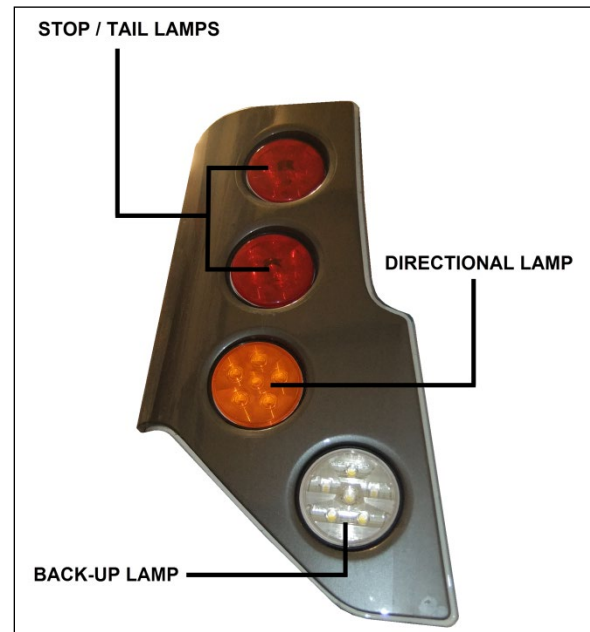

FIGURE 107: X3-SERIES REAR TAIL LAMPS, SOME VEHICLES MAY HAVE THE DIRECTIONAL LAMP MAY BE MOUNTED ON TOP POSITION
7. The inspection limits in the vertical direction for low-beam headlamps or the low beam of a dual-beam headlamp, shall be as described in Table 1. In the horizontal direction, the left edge of the high-intensity zone shall be located from 10 cm (4 in) left to 10 cm (4 in) right of the vertical centerline of the beam. The viewing screen shall be located 7.6 m (25 ft) in front of the vehicle (Figure 107).